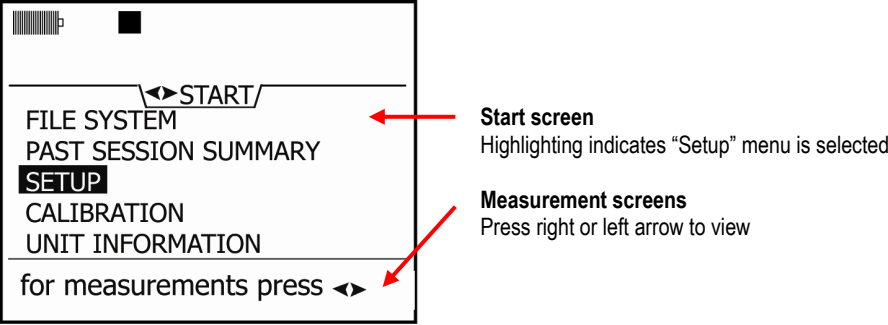

Figure 3-2: Start screen
- The **Start** screen will appear (see Figure 3-2 for details).
1. From the **Start** screen (see Figure 3-2 for details), select **Setup** and press **Enter** .